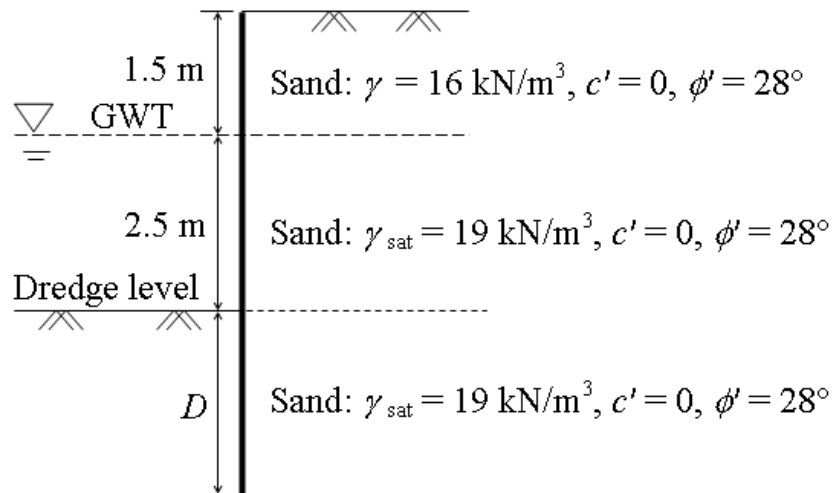

Fig.4
- (b) A cantilever sheet pile wall (Fig.4) penetrates a granular soil. Determine (i) Theoretical depth of embedment (D), (ii) The total length of sheet piles for a 30% increase in D and (iii) The minimum section modulus of the sheet piles if allowable bending stress is 190 MPa.